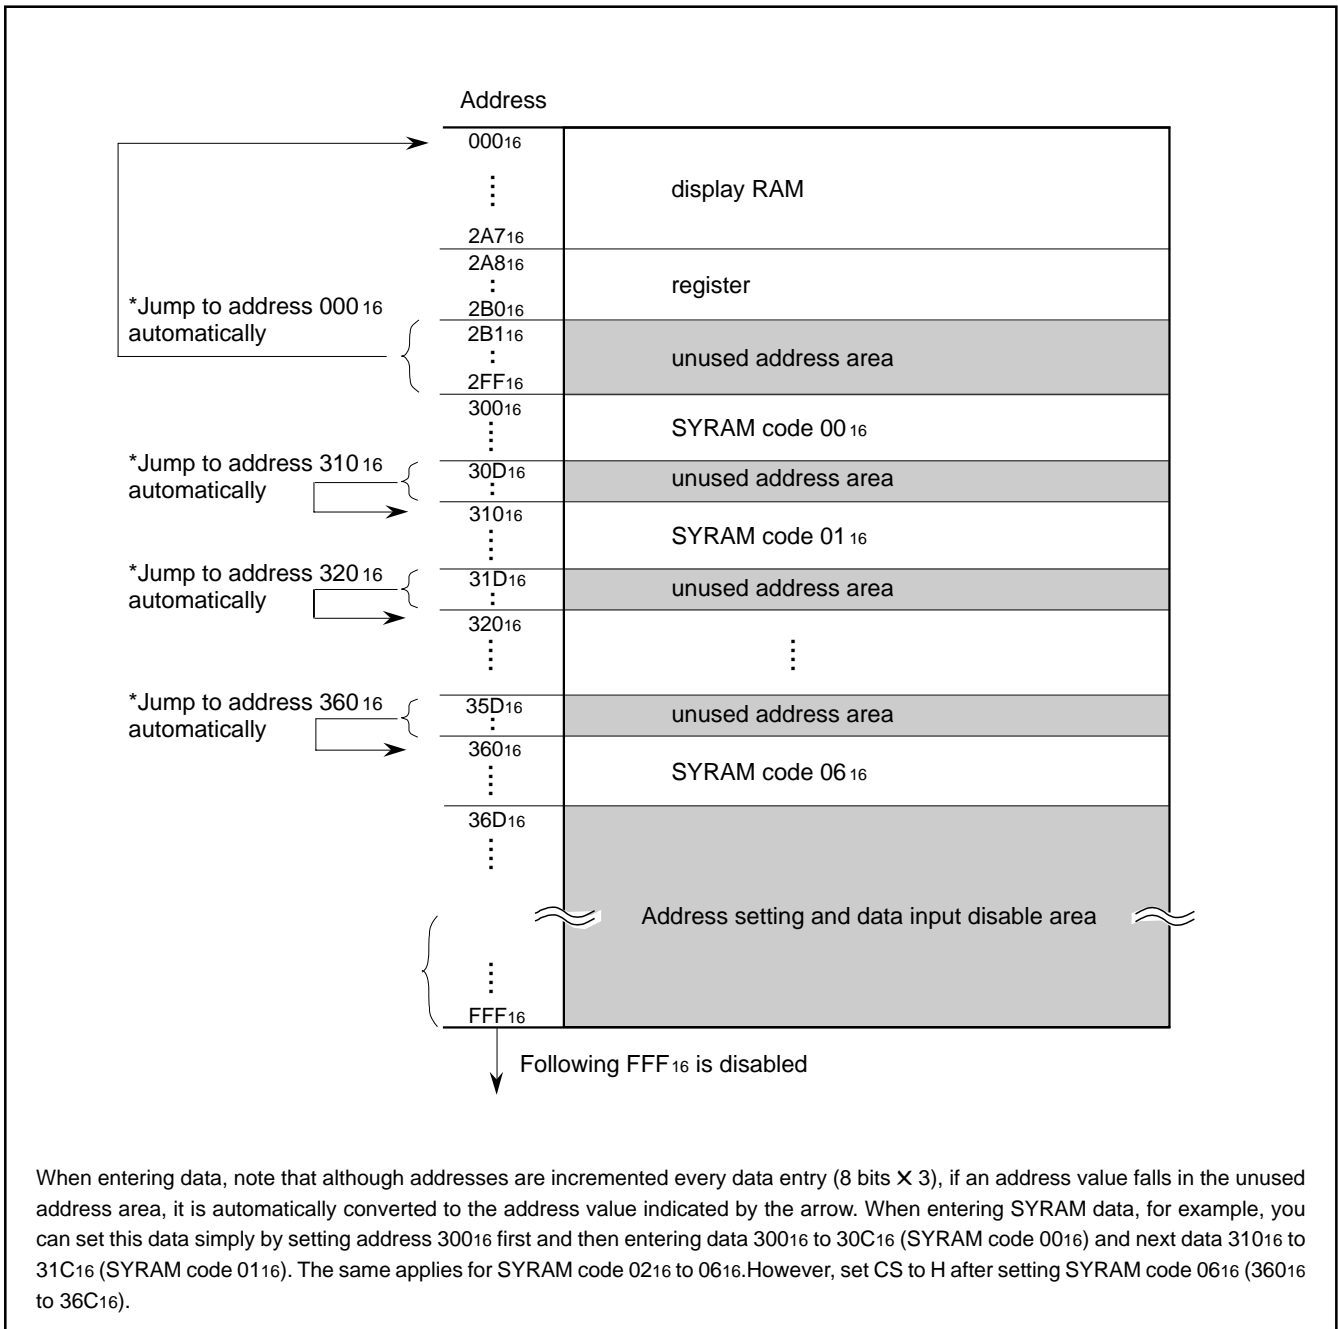

Fig. 12 Address construction
- (1) The address consists of 8 bits X 3.
- (2) The data consists of 8 bits X 3.
- (3) The 8 bits X 3 in the SCK after the CS signal has fallen are the address, and for succeeding input data, the address is incremented every 24 bits (8 bits X 3). Refer to Fig.12 about detail for address increment.